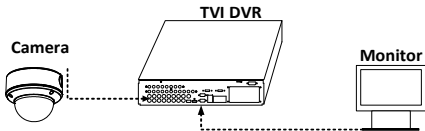

Figure 3-1 Connection
- 1. Connect the camera with the TVI DVR, and the monitor, as shown in figure 3-1.